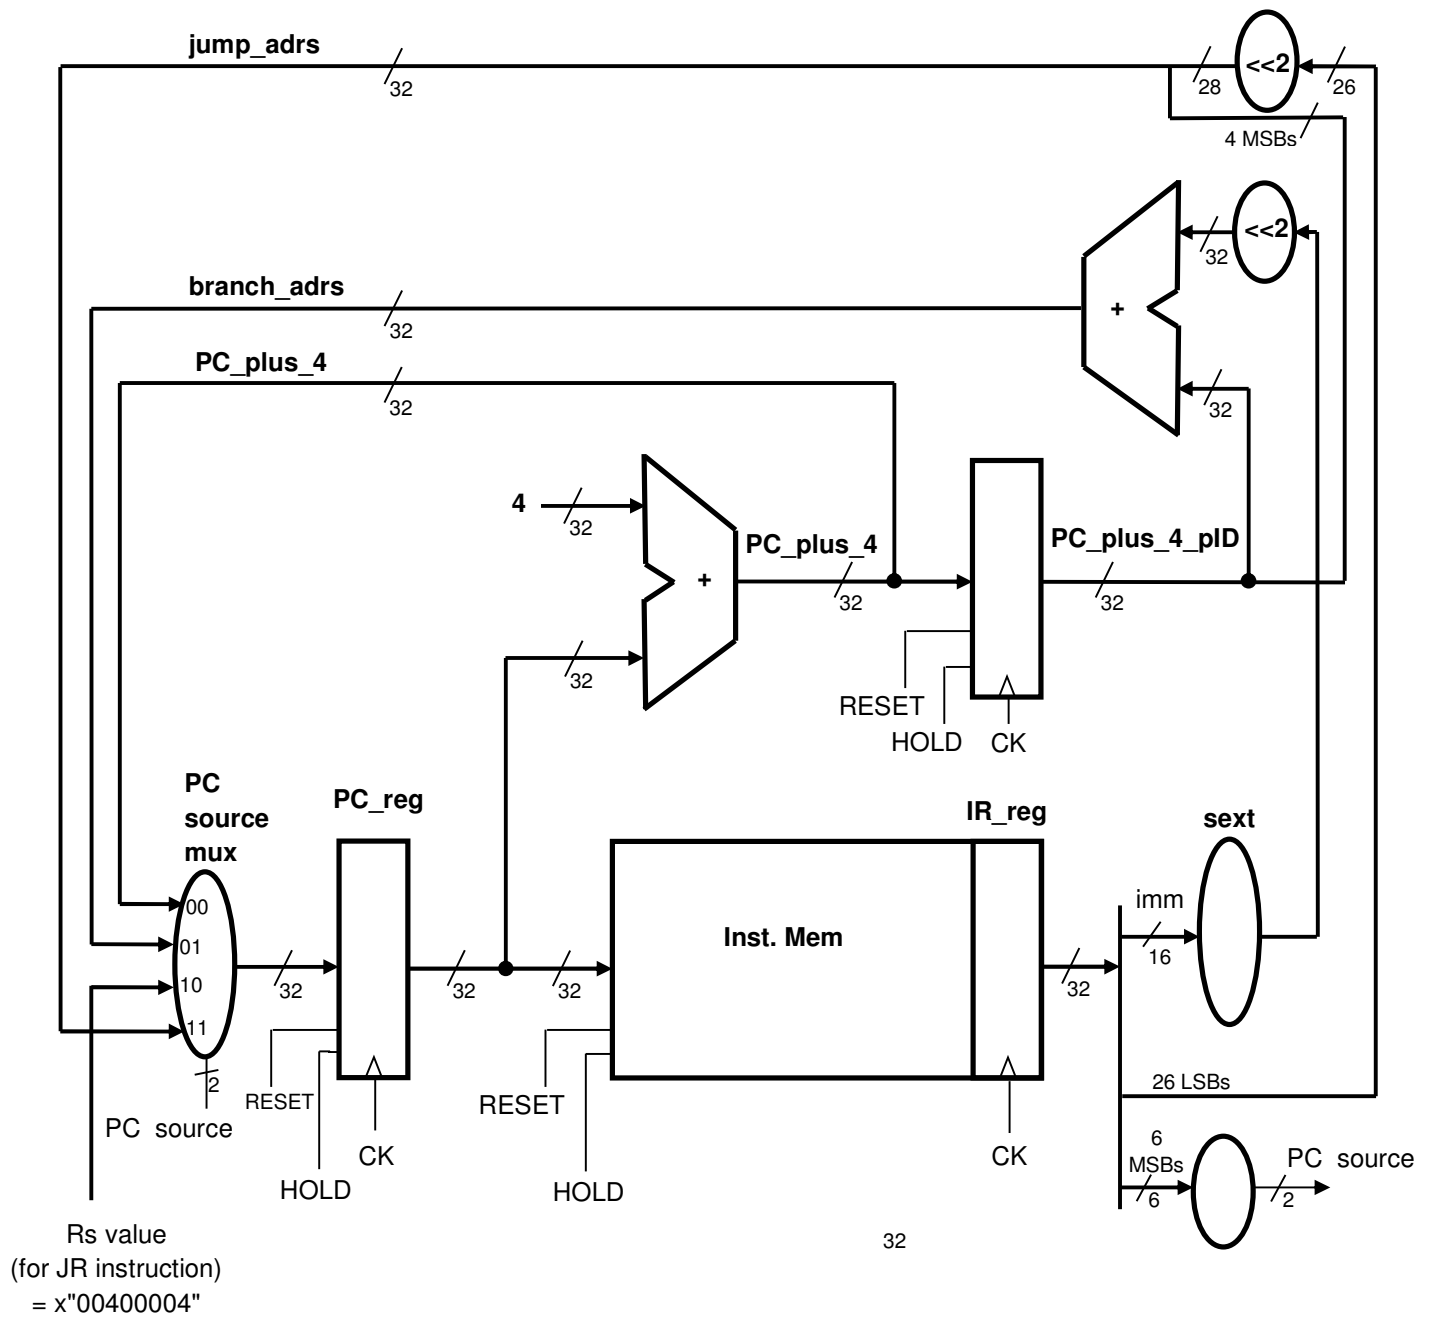

Fig. 1 – The Fetch Unit
The Fetch Unit is the part of the CPU that fetches the instruction from the Instruction Memory (IMem) into the Instruction Register (IR_reg). It also handles jumps and branches. The Fetch Unit's main components are the PC register (PC_reg) and IMem. The PC_reg is a 32 bit register that advances by 4 in every clock. Thus we should have also a 32 bit Adder that adds 4 to the current PC_reg value. In order to jump or branch, we need to input the jump address or branch address to the PC register. Thus, we have a multiplexer at the input of the PC register. This is depicted in Fig.1 above
The light blue part is the entity you design. It is called the **Fetch_Unit** and is defined in the **Fetch_Unit.vhd** file. Inside the Fetch_Unit entity one needs to define all signals and then, write the equations of the required processes. You do not need to do that since we already done that for you in the **Fetch_Unit.empty** file. So, you should rename it to **Fetch_Unit.vhd** and only write the equations of the PC_reg, PC_plus_4 adder, branch_adrs, jump_adrs, jr_adrs, PC_source mux, sext_imm and the instruction decoder producing the PC_source signal. The MIPS instruction coding is described in Appendix A at the end of this document. Note that all of the elements shown in Fig.1 (beside the IMem) will be in the same file, the **Fetch_Unit.vhd**. Do NOT implement these elements as entities (components)!
Your design includes all signals, registers and logic we see in Figure 1 except the IMem and IR itself. The IMem & IR are implemented for you in advance in a component called **BYOC_Host_Intf_4sim**. Another important pre-prepared component is the **BYOC_Clock_driver_4sim.vhd**. All of these 3 components (the pre-prepared two and the Fetch_Unit you designed), reside inside the design top file called **HW2_top_4sim.vhd**. It describes the connections of all of the 3 components and the signals outputted to the Test Bench. We have prepared the **HW2_top_4sim.vhd** file for you.
- 2) **Fetch_Unit.vhd** - your design implementing figure 1
You now have to write the equations describing the logic circuitry of Figure 1. For that we also added remarks listing the required functionality inside the “empty” file.